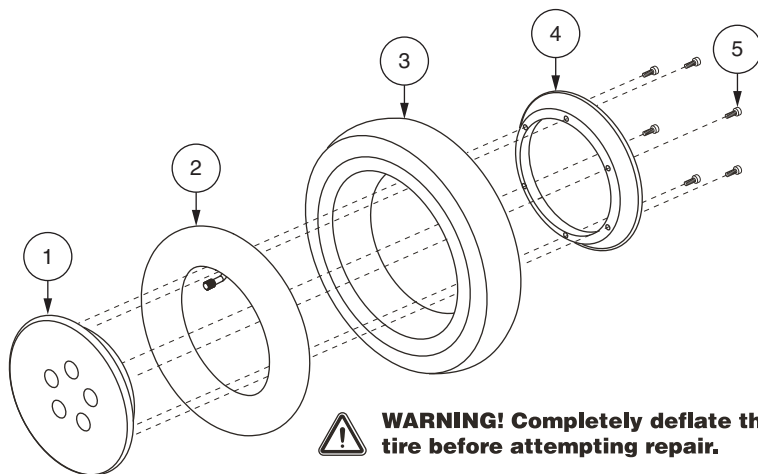

Figure 19. Q6 Edge 2.0 Drive Wheel Disassembled
6. Remove the screws and separate the front and rear rim. **See figure 19.**
10. Reinstall the five (5) lug nuts onto the wheel hub and tighten.